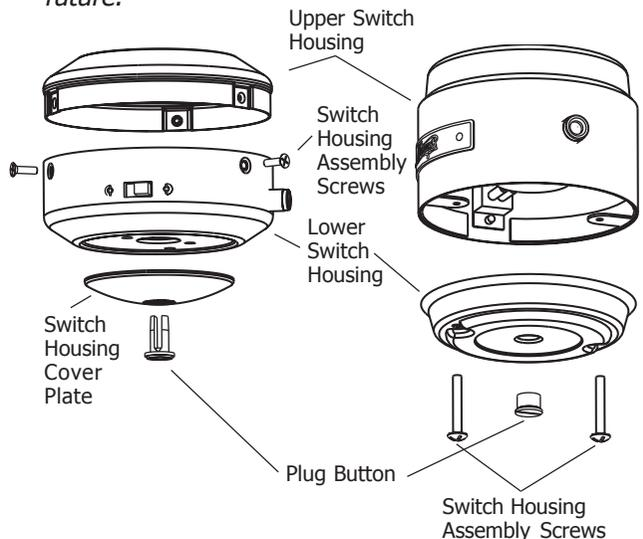

Figure 1 - Unassembling the fan switch housing
1. Unassemble the fan switch housing as shown in Figure 1.
6. Align the holes in the upper switch housing and the lower switch housing. Securely tighten the three switch housing assembly screws. Refer to Figure 1 and 3.